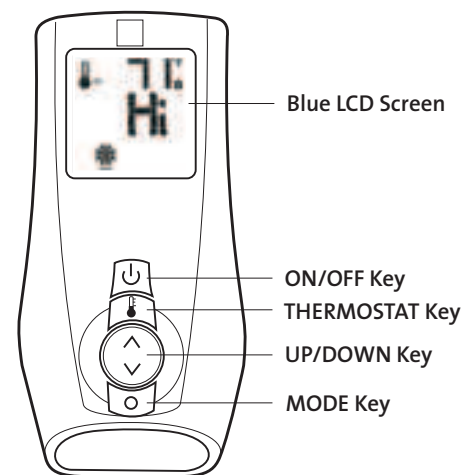
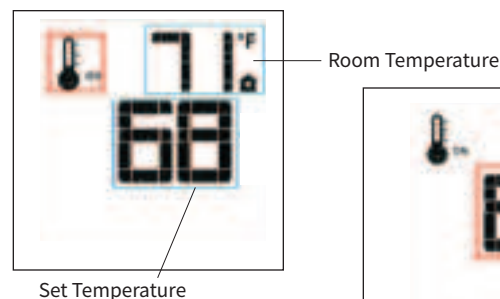

Figure 40. Remote transmitter function keys.
Figure 48. Thermostat ON
- To activate this function, press the Thermostat Key, (Fig. 40.) The display will indicate that the room thermostat is "ON" and the current Set Temperature is now displayed. Fig. 48.
- Fan speed can be adjusted through six settings. To activate this function, press the Mode Key (Fig. 40) to index to the Fan Control icon. See fig. 52.